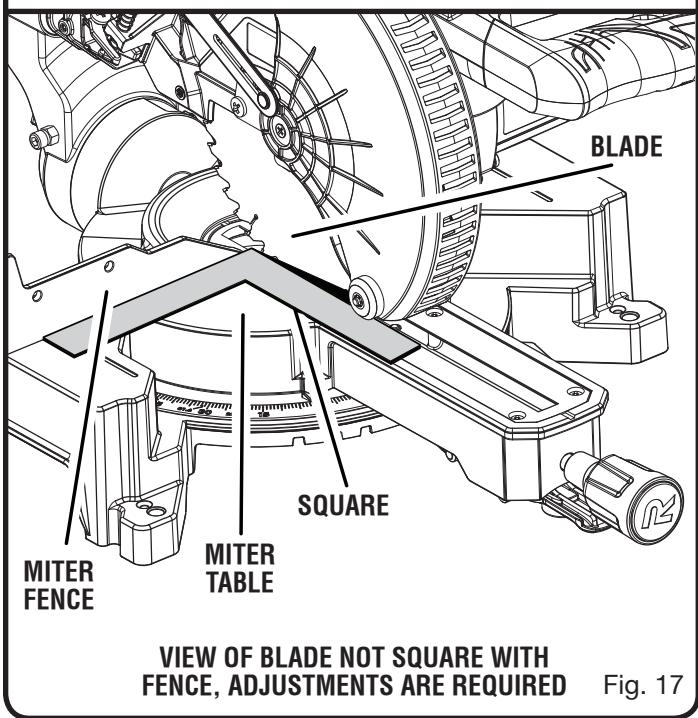

Fig. 17
- If the front or back edge of the saw blade angles away from the square as shown in figures 17 - 18, adjustments are needed.